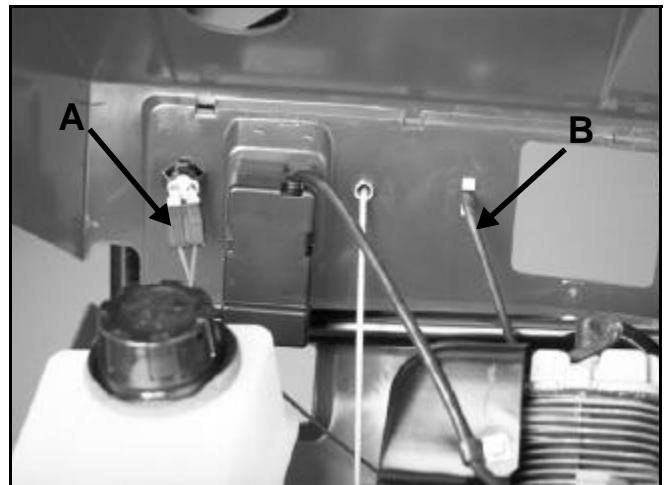

Figure 140
7. Lift the upper shroud up and remove the wires to the key switch (Figure 140).
8. Disconnect the primer hose to the primer bulb (Figure 140).